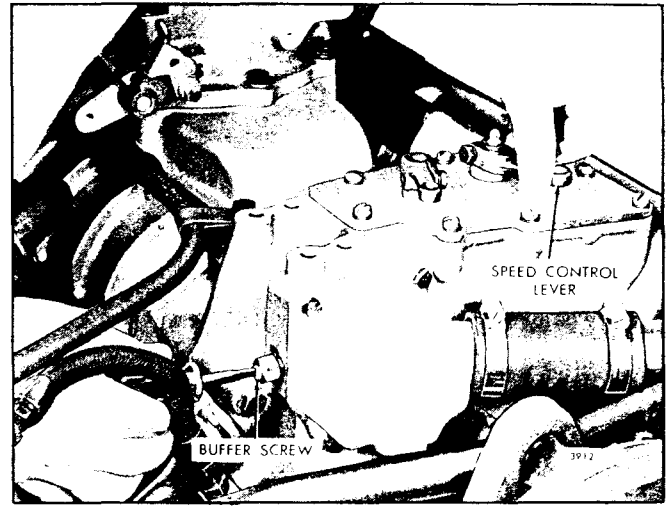

Fig. 14 - Adjusting Buffer Screw
1. With the engine running at normal operating temperature, turn the buffer screw in (Fig. 14) so it contacts the differential lever as lightly as possible and still eliminates engine roll.